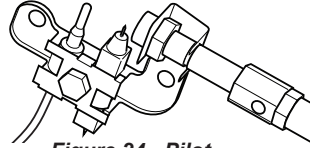

Figure 24 - Pilot
- With control knob pressed in, push down and release ignitor button. This will light pilot (Figure 24) The pilot is attached to the rear of the front of burner. If needed, keep pressing ignitor button until pilot lights. *Note: If pilot does not stay lit, refer to Troubleshooting, pages 28 through 31. Also contact a qualified service technician or gas supplier for repairs. Until repairs are made, light pilot with match. To light pilot with match, see Manual Lighting Procedure.*